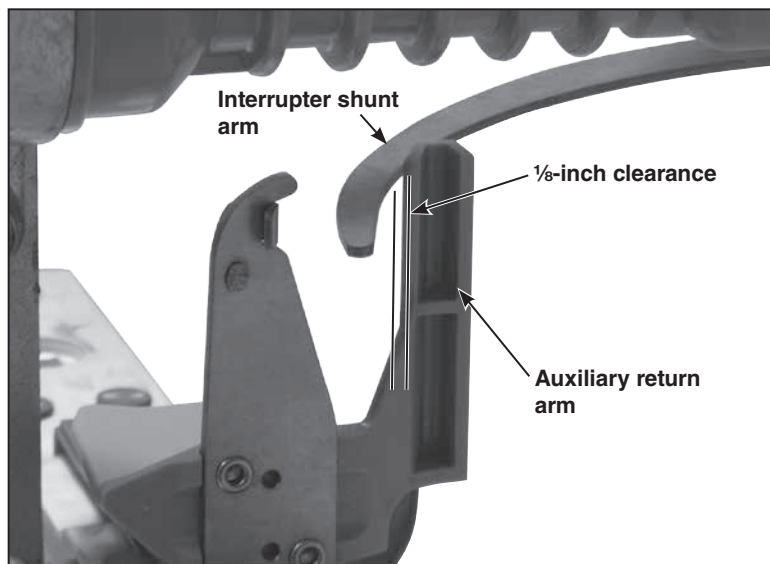

Figure 28. Check for 1/8-inch clearance between the interrupter shunt arm and the auxiliary return arm.
- When the interrupter is fully-closed, the interrupter shunt arms are resting against or no more than 1/8-inch away from the auxiliary return arm of the multipurpose operating cam. See Figures 28 and 29.